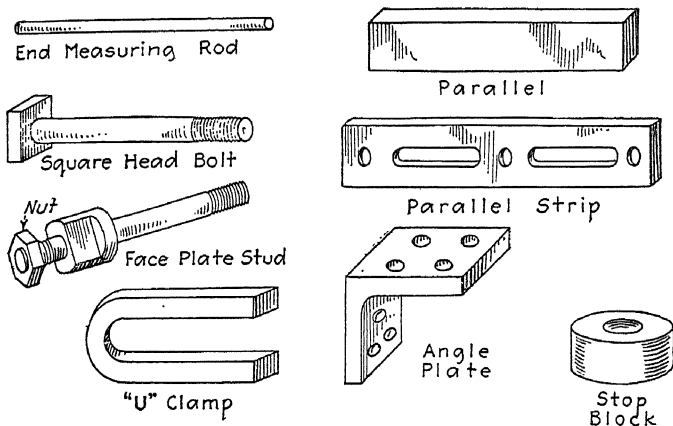

FIG. 198.—Accessories for faceplate work
pose certain accessories are necessary. Sketches and descriptions of some of these are here given (Fig. 198), and examples showing their use follow.
**228. Definitions of Accessories Used** (Fig. 198). *Square Head Bolt*.—May be used in any of the faceplate slots for clamping pieces to the faceplate.